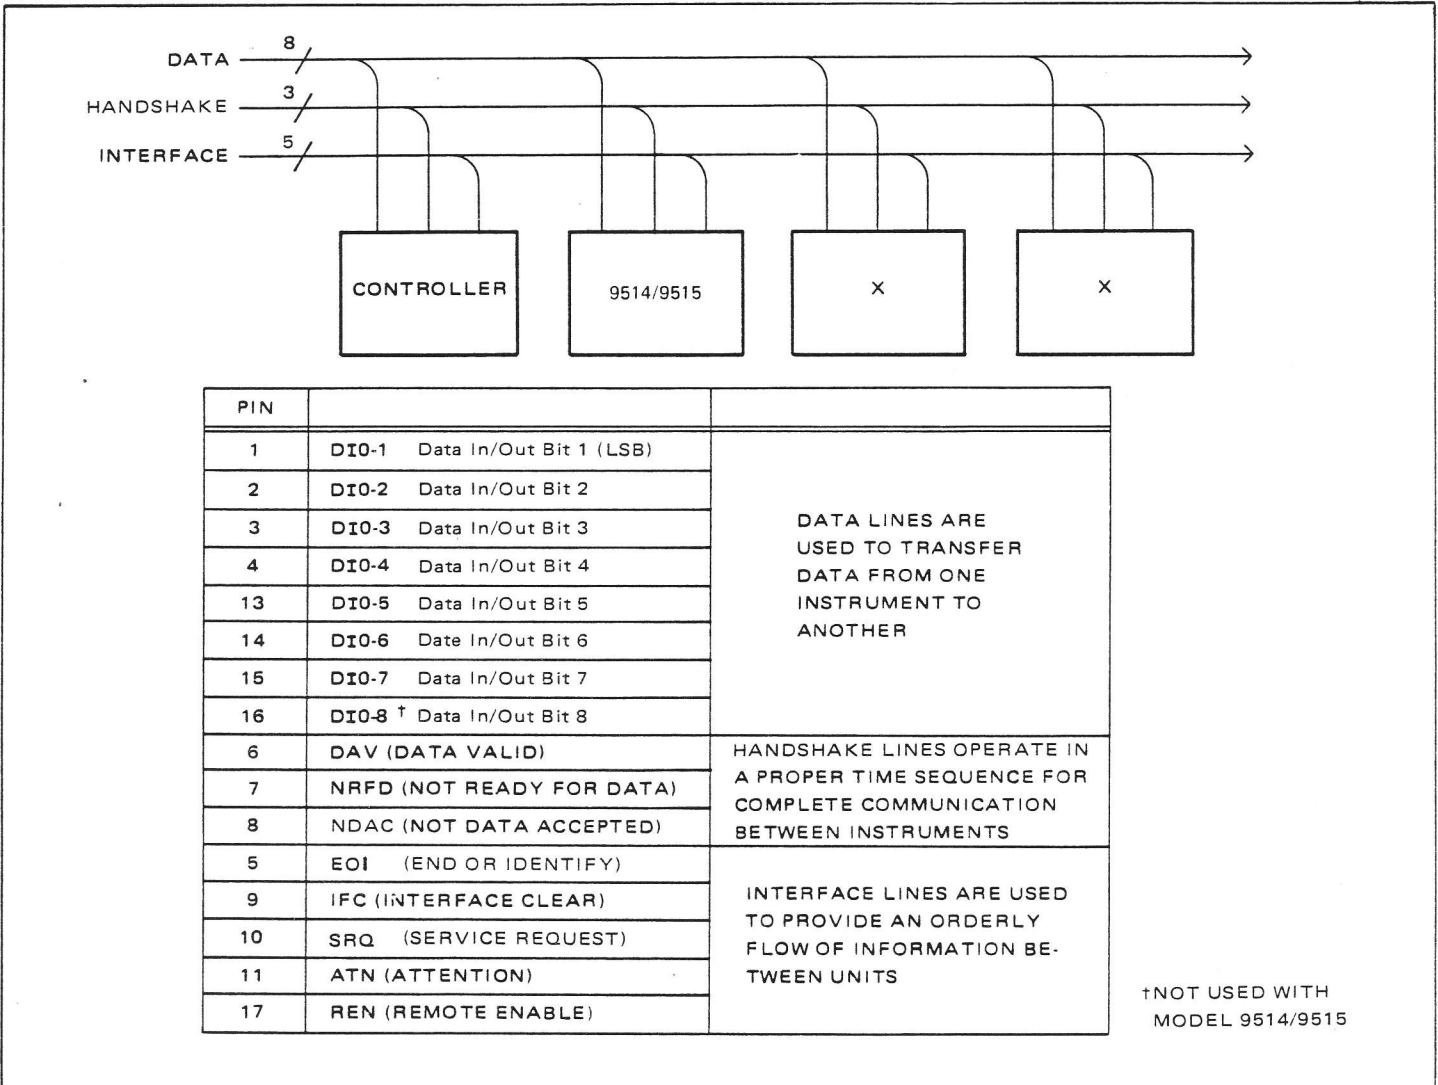

Figure 3.5 - Data Bus Lines and Interface Signal Pin Assignments
3.3.2.1 The Interface Board provides remote programming of all controls and digital output data defining all front panel indicators. Inputs and outputs for the option are on a bi-directional bus via a 24 pin connector on the rear panel. The pin location, line identification, and operation of the option are in compliance with IEEE standard 488-1975, "IEEE STANDARD DIGITAL INTERFACE FOR PROGRAMMABLE INSTRUMENTATION". The Interface Board provides interface capability with other instruments and a controller also utilizing the "interface bus" structure. Connector contact assignments are shown in Figure 3.5. The IEEE-488-1975 subsets available in the Model 9514/9515 timer counter are listed in Table 3.26.
3.3.3.2 The signal lines as shown in Figure 3.5 consists of three functionally separate sets: Data, Handshake and Interface.